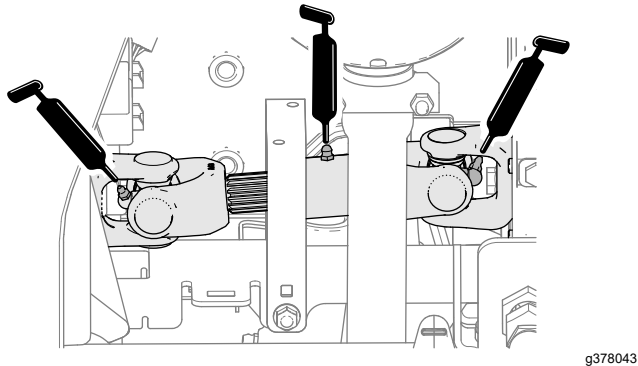

Figure 106
- Pump-driveshaft U-joint (3) (Figure 106)